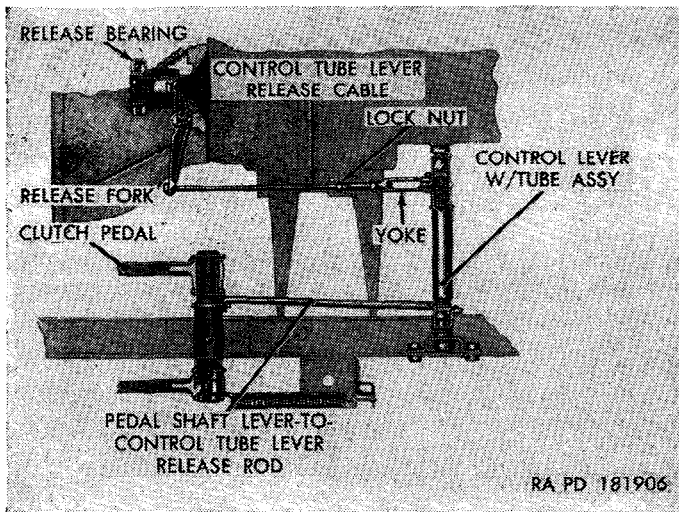

Figure 122. Clutch linkage adjustment.
b. Loosen the lock nut (fig. 122) that locks the yoke to the control tube lever release cable. Unscrew the yoke from the cable until the clutch pedal has  $1\frac{1}{4}$ -inch free travel. Tighten the lock nut against the yoke after the adjustment is made.